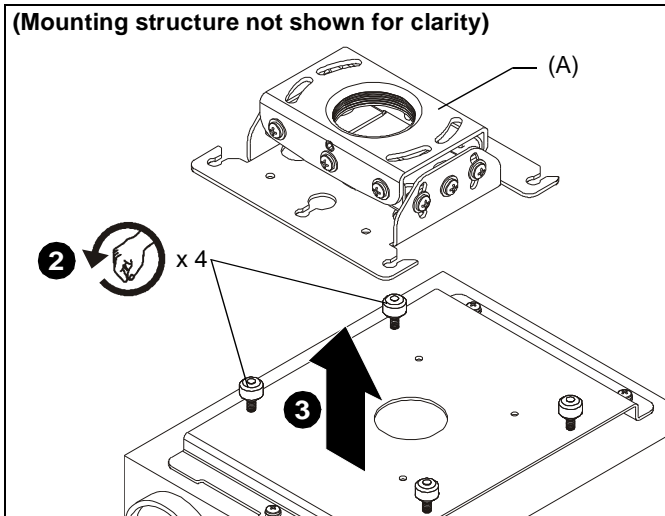

Figure 5
2. Loosen (but do not remove) thumb nuts on the interface bracket. (See Figure 5)
3. Raise projector with attached interface bracket to RPA projector mount (A). (See Figure 5)